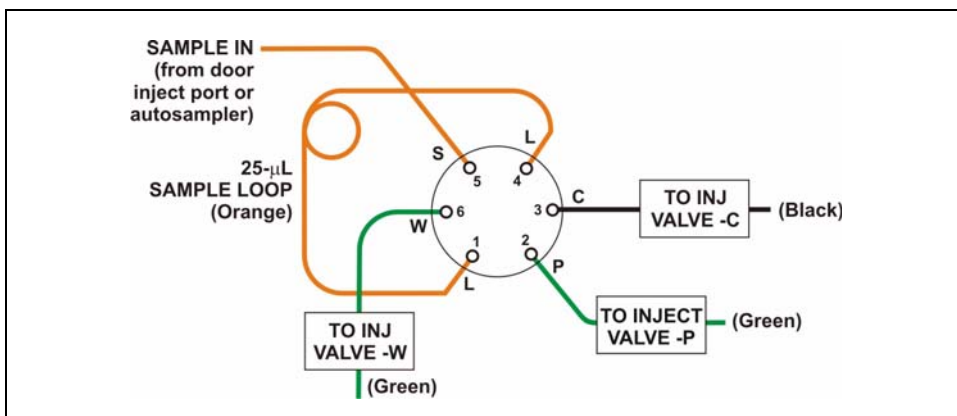

Figure 5-8. Injection Valve Plumbing
5. Reconnect all liquid lines to the injection valve (see Figure 5-8).